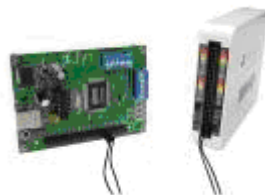

Fig. 2-3
3. The circuit board must be grounded to the Logic Analyzer with the black Ground Cable (Fig. 2-3).